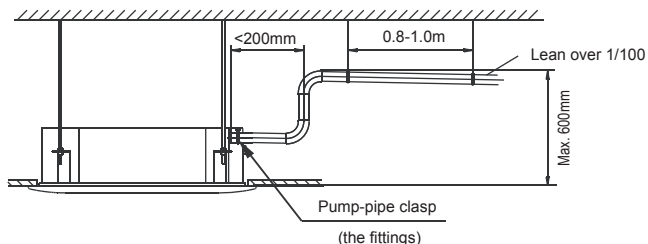

Fig.6-2
7) In case the drainpipe outlet is higher than pumping connective pipe of the main body, the drainpipe must be arranged upwards vertically by using connective assembly of the water outlet for vertical bending, and the height of the drainpipe shall set to the defrosting pan surface no more than 1000mm (four-way cassette) or 600mm (slim four-way cassette), otherwise, too much backflow while shutdown would leads to overflow (Refer to Fig.6-2).